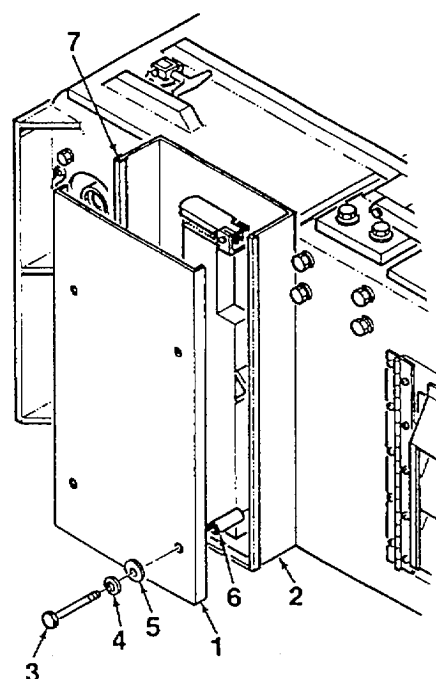

Figure 4-7. Muffler Cover
Discard and replace all lockwashers and locknuts when removed. Remove muffler cover (1, Figure 4-7) from housing (2) by removing four screws (3), lockwashers (4), washers (5), and spacers (6).
1. Mate muffler cover (1, Figure 4-7) to housing (2) and secure using four screws (3), lockwashers (4), washers (5), and spacers (6).